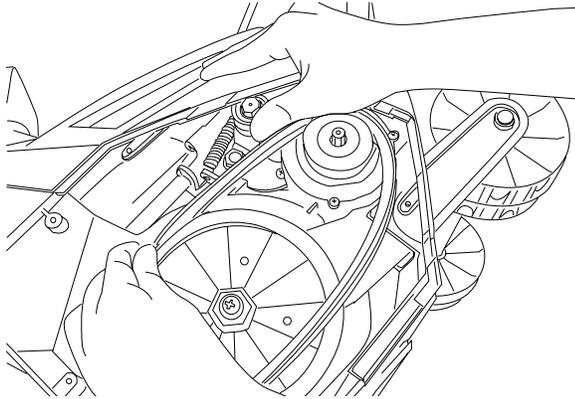

Figure 29
3. Lift the belt tension and assemble the new belt by rolling it into the big pulley from upside (Fig. 29).